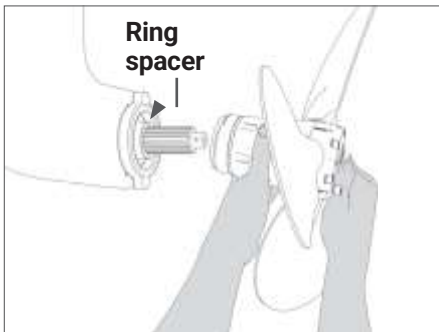

FIG. 1 How to insert the propeller on the Sail-Drive shaft
- Engage the complete propeller assembly onto the shaft of the Sail-Drive leg (**Fig. 1 and 2**) and hold it in place before fixing.